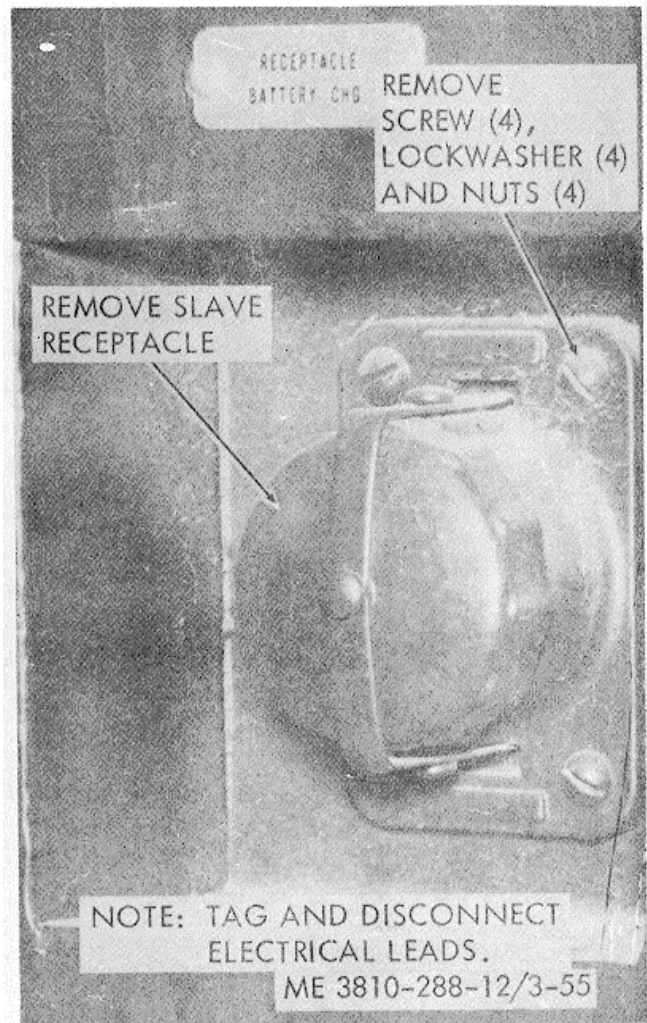

Figure 3-55. Slave receptacle, removal and installation
g. *Slave Cable Receptacle.* Refer to figure 3-55 and replace a faulty slave receptacle.